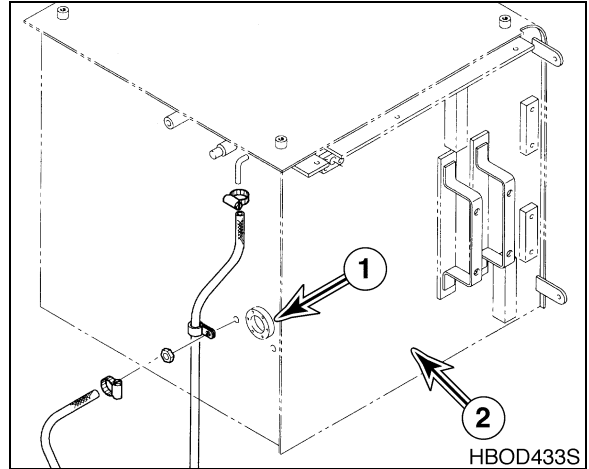

Figure 15
7. Connect wires as tagged to fuel sensor (1, Figure 15) on side of fuel tank (2).
8. If equipped, connect components to the fuel filler pump port on side of fuel tank (2, Figure 15).